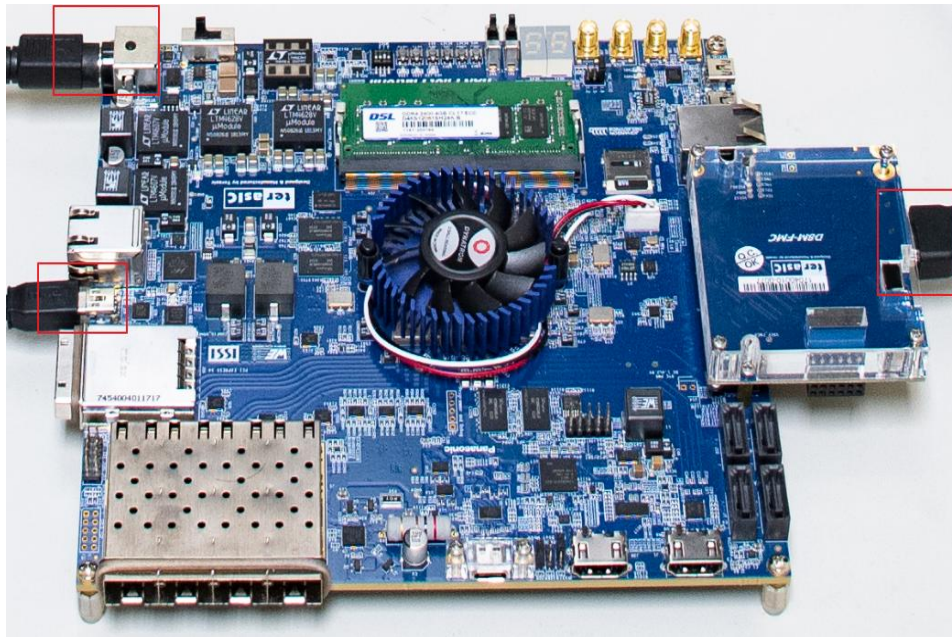

Figure 5-16(5-16) Setup HAN_D8M_FMC_VIP demonstration
- Install D8M-FMC Board on the **FMC**(J19) connector of HAN and make sure the screw is locked (See Figure 5-16)
- Connect the HDMI connector on the D8M-FMC to a HDMI monitor (See Figure 5-16)
- Connect a USB cable between the host PC and the USB connector (J20) on the HAN board (See Figure 5-16).